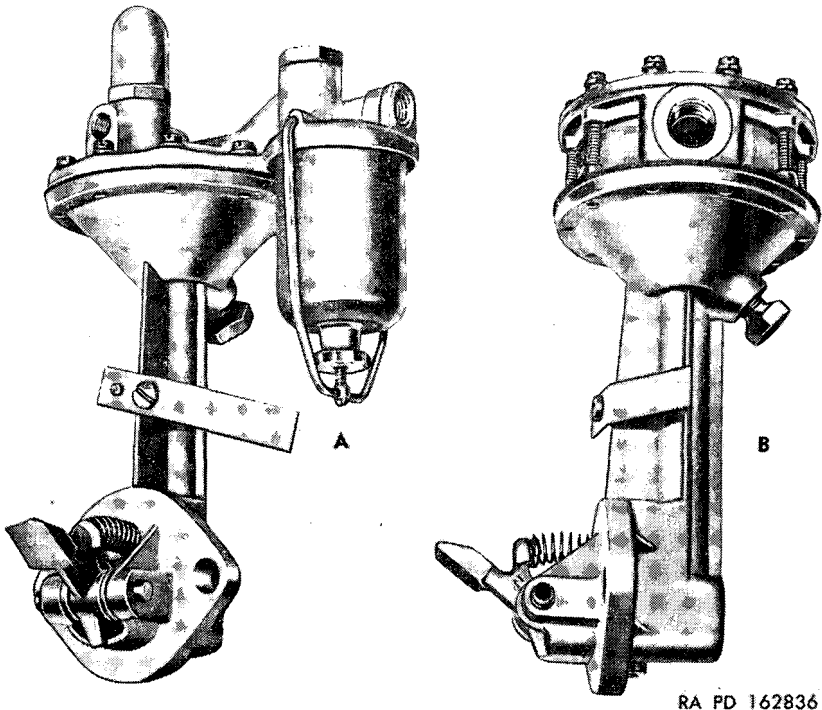

Figure 10. Special fuel pump, series IHC.
a. Identification. Series IHC special fuel pumps (fig. 10) are provided with high bodies to avoid engine interference with the pump top cover. Example A in figure 10 uses a cover similar to the D series pumps and example B uses the 6-valve cover for extra volume and pressure characteristics.
- (1) Remove diaphragm and pull rod assembly by pressing downward on diaphragm and then turning 90 degrees to disengage pull rod from link. Lift out diaphragm spring. Remove oil seal and oil seal retainer.
- (2) Before disassembling diaphragm, note carefully the position of tab on diaphragm with relation to flats on pull rod so new diaphragm can be assembled in the same manner.
- (3) Place pull rod in vise and remove pull rod nut, lock washer, alignment washer, upper protector washer, diaphragm, lower protector washer, and pull rod gasket in the order named.
- (4) Remove retainer clips from rocker arm pin and drive out pin with drift punch and hammer. This will disassemble rocker arm spring, rocker arm, link, and link spacer washers. Remove priming handle pivot screw to disassemble priming lever and link actuator.
d. Disassemble Cover (A of fig. 10).
- (1) Loosen bail screw nut and remove bowl, bowl gasket, and bowl seat. Spring bail out of retaining holes in top cover and remove bail screw nut. Remove strainer screen from top cover.
- (2) Remove valve plug and gasket from top cover over strainer. Remove inlet valve spring and valve. Remove air dome (or valve plug) and gasket from top cover over diaphragm. Remove outlet valve spring and valve.
e. Disassemble Cover (B of fig. 10).
- (1) Remove two center cover screws to disassemble pulsator cover plate. Remove three layers of pulsator diaphragm from cover assembly.
- (2) Remove eight screws from two valve plates in cover. Lift out two valve plates, six valve and cage assemblies, and two gaskets.
- (1) Assemble link and rocker arm and install in pump body. Aline rocker and link holes with holes in body and drive in rocker arm pin. Retain the pin with a snap ring at each end. Install rocker arm spring.
- (2) Soak new diaphragm in clean kerosene. Fuel oil may be used, but do not use shellac or sealing compound.
- (3) Place flat end of pull rod in vise, and on the threaded end of rod, assemble a pull rod gasket, lower protector washer (dish down), diaphragm, upper protector (dish up), alinement washer, lock washer, and pull rod nut. Line up tabs of diaphragm with same relation to center line of flats on pull rod as existed before disassembling. Tighten pull rod nut in this position, using a second wrench to hold alinement washer.
- (4) Assemble oil seal gasket, gasket retainer, and diaphragm spring in position over well in body. Insert pull rod through oil seal, push diaphragm down against spring pressure, and engage flat end of pull rod in slot of link. Turn diaphragm 90 degrees in either direction to lock in position.
b. Assemble Cover (A of fig. 10).
- (1) Install gaskets on air dome and valve plug. Place a drop of light oil on valve and install in valve chamber over diaphragm. Insert valve spring in air dome and tip into valve chamber. Tighten air dome securely. Place a drop of light oil on valve and install in chamber over strainer. Insert valve spring in plug and tip into chamber. Tighten securely.
- (2) Install strainer screen and bowl gasket in top cover. Install bowl seat on bail screw and swing into position after installing bowl. Tighten thumb nut securely with fingers only.
c. Assemble Cover (B of fig. 10).
- (1) Insert two gaskets and six valve and cage assemblies in cover. Inlet valves should have 3-legged spider into cover and outlet valves should have 3-legged spider facing out of cover. Secure valve and cage assemblies by means of two valve plates and eight retainer screws.
- (2) Assemble three layers of pulsator diaphragm on cover over the valve assemblies. Place cover plate on diaphragm and retain with two center screws and lock washers.